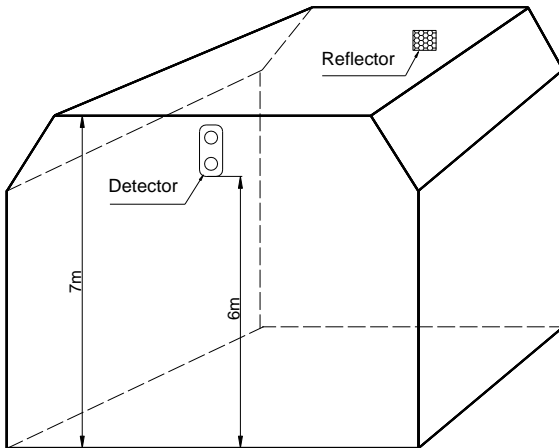

Fig.5
b) As the space height is between 5m and 8m, the detector and reflector/s should be mounted on the walls which are opposite, having about from 0.5m to 1m from the ceiling. Refer to Fig. 5.